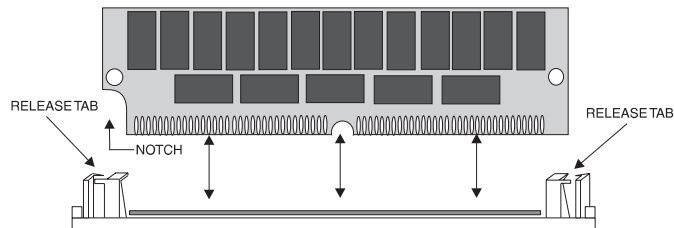

Figure 3-2: Installing a 72-Pin SIMM
1. Hold the DIMM so that the notched edge is aligned with the notch on the DIMM socket (Figure 3-2).